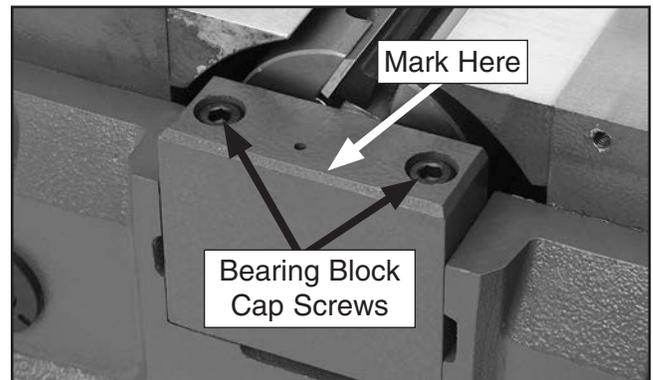

Figure 4. Location of cap screws and lock washers on front bearing block.
8. Remove the cap screws and lock washers that secure both bearing blocks, as shown in **Figure 4**.
9. Mark the side of the front bearing block that faces the front of the machine (see **Figure 4**) with tape or a felt marker, to make it easier to re-install the bearing blocks later.